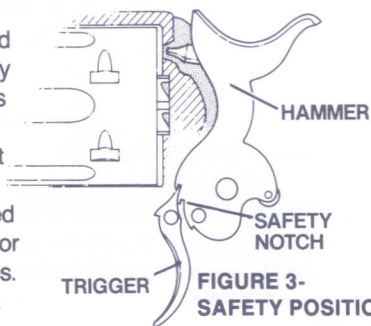

FIGURE 3-
**HAMMER SAFETY POSITION**—With the hammer in the Safety position the sear end of the trigger engages the first notch (safety notch) of the hammer. See Figure 3. In this position, the firing pin does not protrude through the firing pin hole, so that it cannot contact ammunition in the cylinder chambers and the trigger cannot be moved unless enough force is applied to break it or the notch. (Note: Normal trigger pull is 5 lbs. maximum, while excessive force is 35 lbs. or more.)